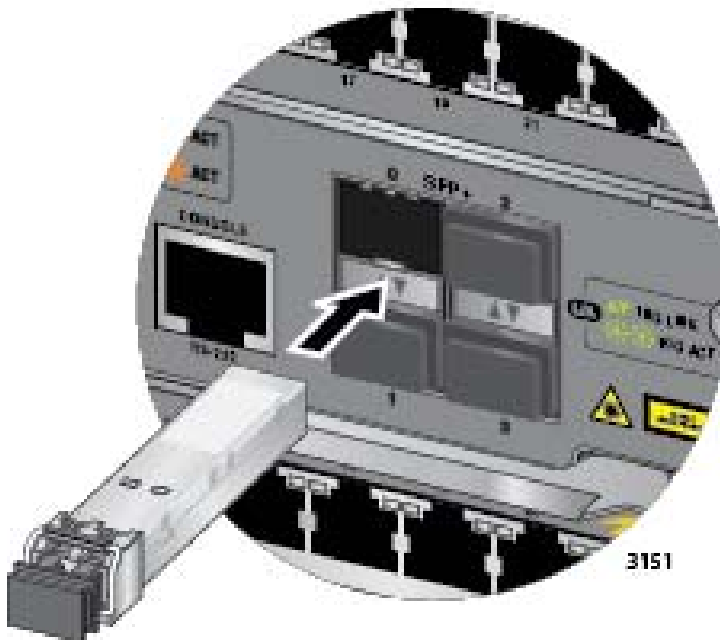

Figure 106. Installing an SFP or SFP+ Transceiver in the AT-SBx31CFC960 Controller Fabric Card
3. Slide the transceiver into the slot until it clicks into place, as shown in Figure 106.